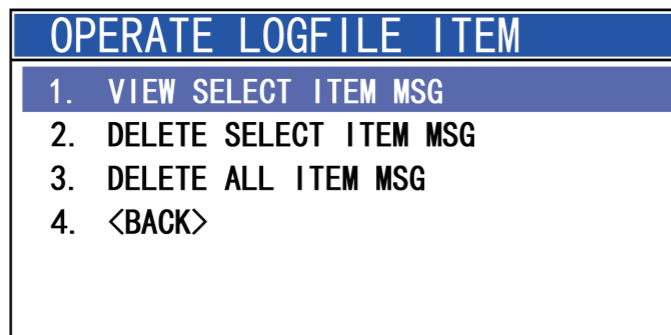

Figure 6.4
- c: Turn the channel knob to select the call to operate on, then press [CH/ENT] to open the call log operation dialog, as shown in Figure 6.4.